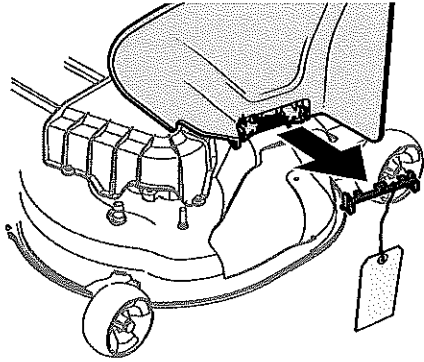

Figure 2-12
7. Holding the chute deflector fully upward, remove the shipping brace. Lower the chute deflector and discard the shipping brace. See Figure 2-12.